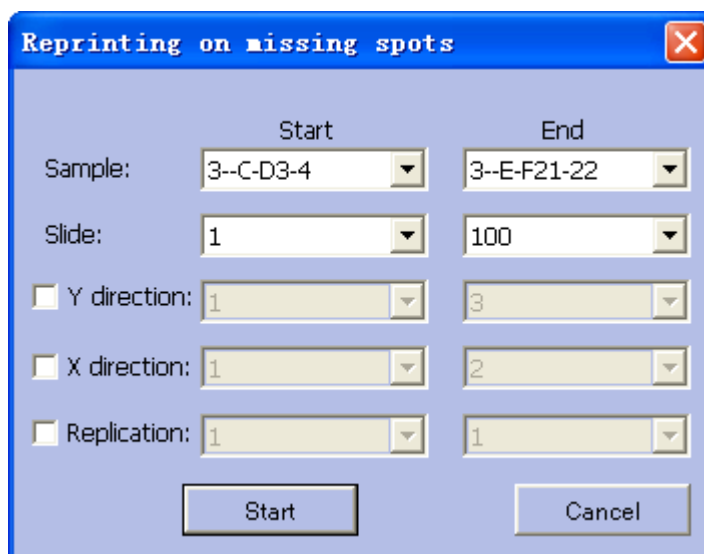

Figure 8-1 The reprinting on missing spots setting interface
Step 1: On the run page, click the Reprint button to access the reprinting pop up dialog as shown in Figure 8-1.